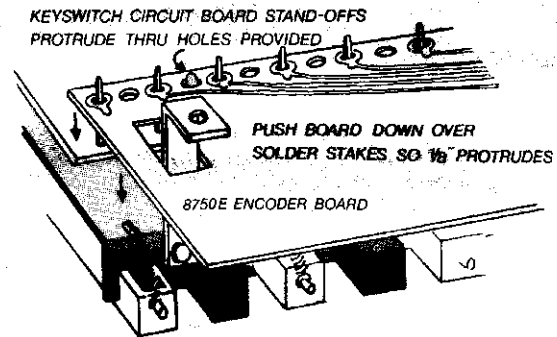

Figure 3: Encoder Circuit Board Installation Detail
- () Carefully mount the previously assembled encoder board to the keyboard by first passing the rectangular cut-outs in the encoder circuit board over the "L" bracket mounting legs of the keyboard. Align the holes in the solder pads along the edge of the encoder board with the solder stakes protruding from the keyboard. Push the encoder board down onto these stakes so that approximately 1/8" (3 mm) protrudes beyond the surface of the board. DO NOT ATTEMPT TO PUSH THE ENCODER BOARD DOWN ALL THE WAY. (see fig. 3)